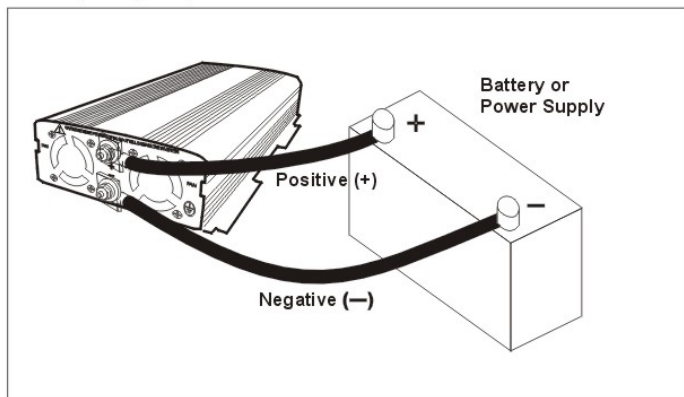

Figure 4. Connections to the INVERTER
STEP 2- Connect the DC cables to the power input terminals on rear panel of the INVERTER. The Red terminal is positive (+) and the Black terminal is negative (-) Tighten the wire connections securely. (See figure 4).